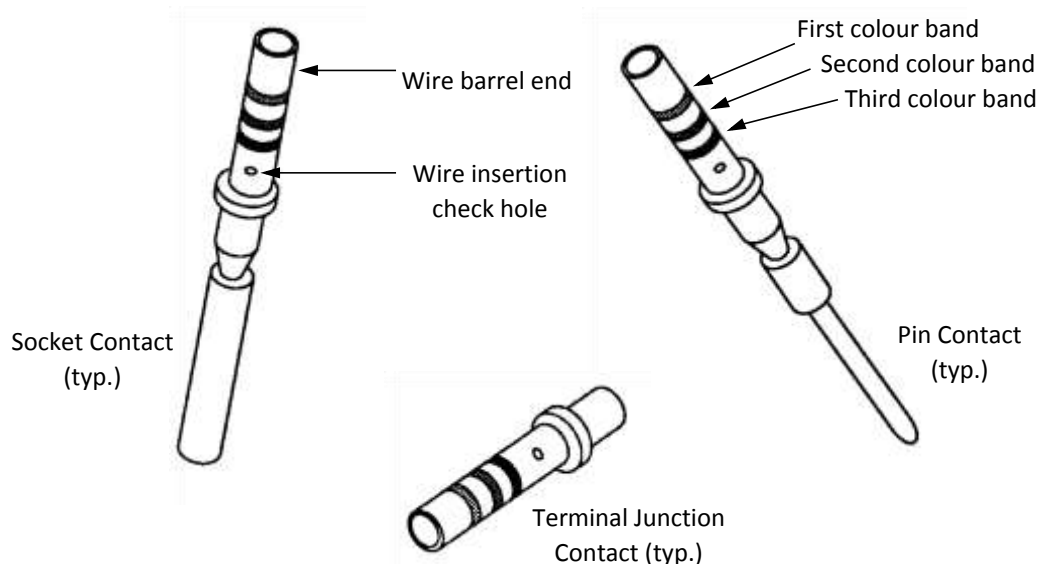

Figure 1. General Description of Crimp Type Contacts
| Figure 1. General Description of Crimp Type Contacts .....     | 6    |
5.1.2 Refer to Figure 1 for a general description of crimp style contacts.